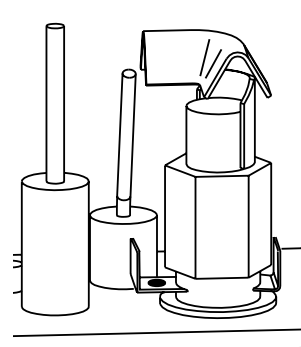

Figure 29. Integrated dual-fuel pilot orifice- LP position shown.
- b) Use the 7/16" wrench to just loosen the pilot head enough to push in the adjustment slide. See fig. 29.